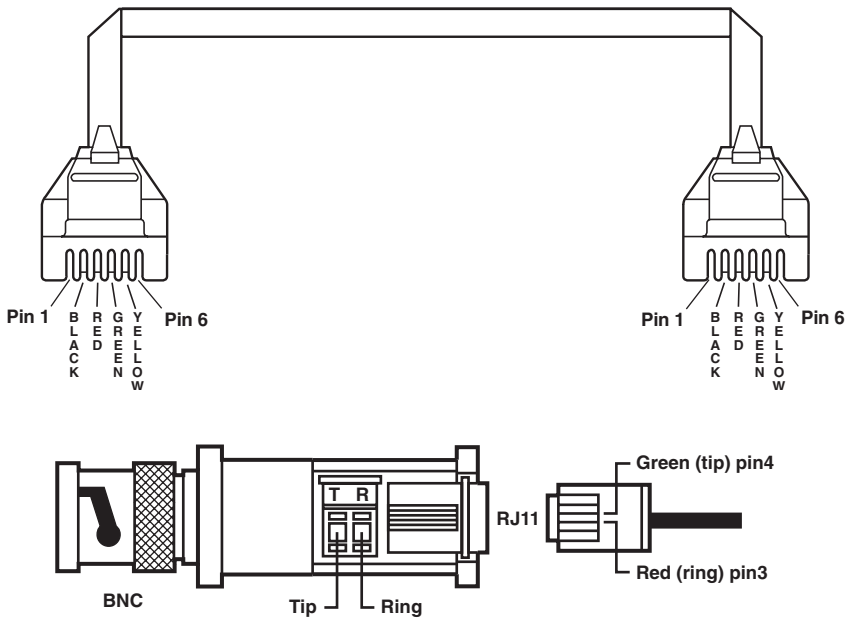
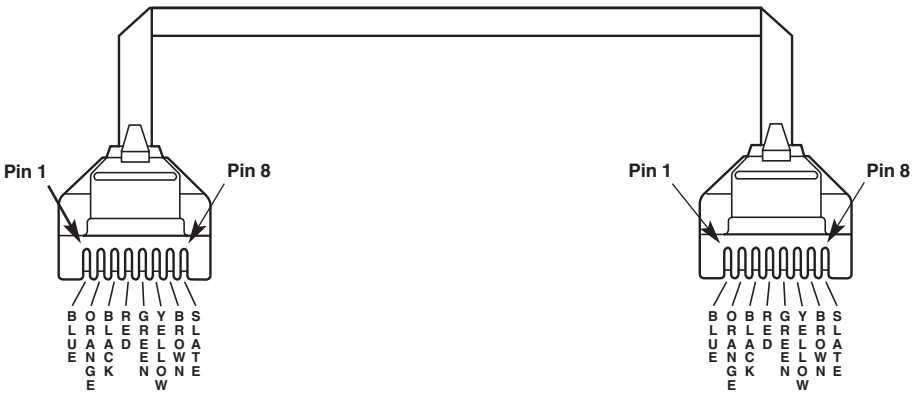

Figure 3. Modular jack pin-out conventions for RJ-11.
Figure 4. Modular jack pin-out conventions for RJ-45.
Figure 3 illustrates modular jack pin-out conventions for RJ-11. The standard is Pin 3 for Ring and Pin 4 for Tip. This is a straight-pinned cable.
Figure 4 illustrates modular jack pin-out conventions for an RJ-45 straight-pinned cable.
Baluns are polarity sensitive. Cables must be wired straight-through as in Figure 3 (Tip to Tip and Ring to Ring) and Figure 4. Data will not be transmitted if there are crossovers on the cable. If your terminal will not work, and distance is within specified limits, try reversing Tip and Ring at one of the baluns.
1. Signal polarity reversal: Switch the wires on the RJ-11 connector or on the hardwire (screw-type) terminals at one end of the line. Make sure the cable is straight-pinned (tip to tip, ring to ring). See Figures 3 and 4 on pages 10 and 11.